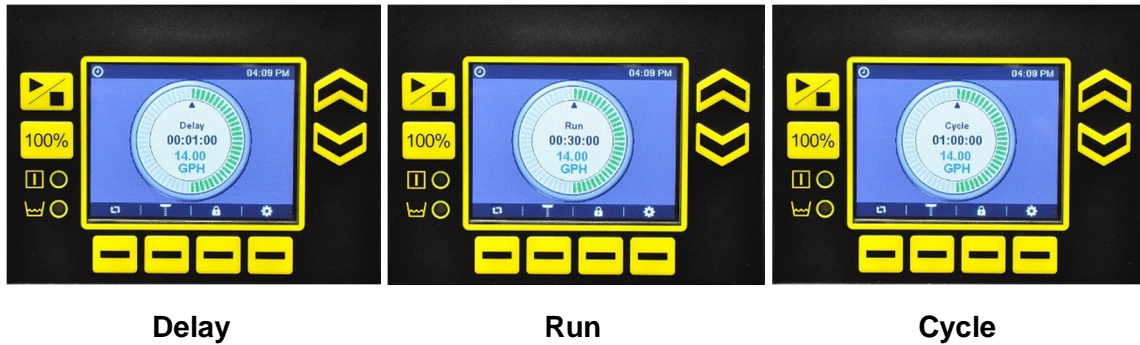
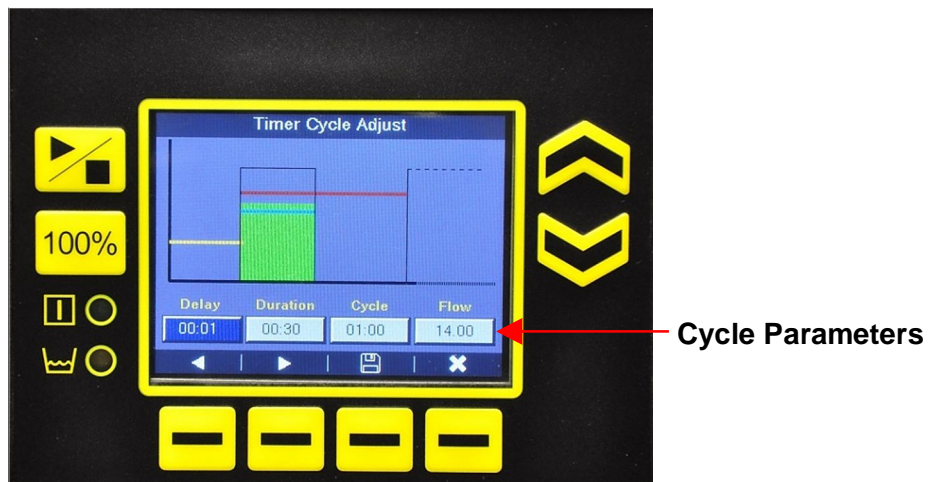

Figure 7: Cycle Timer Home Screen
Figure 8: Cycle Timer Adjust
1. From the cycle timer home screen (Figure 7) press the **Up** or **Down** buttons to access the cycle timer adjust screen (Figure 8).
NOTE: If a set of entered values results in a calculated flow that exceeds the pump's maximum calibrated flow, the calculated flow field will be highlighted red. Modify one or more of the parameters until the calculated flow rate is within the pump's flow range to clear the condition (Figure 8).